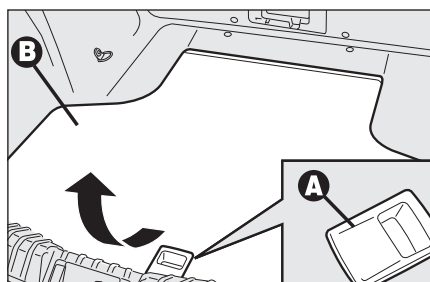
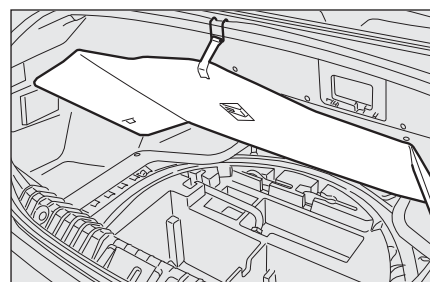

fig. 2
fig. 3
- ☐ Using handle **A**-fig. 2, lift the stiff cover **B** and secure it as shown in fig. 3;